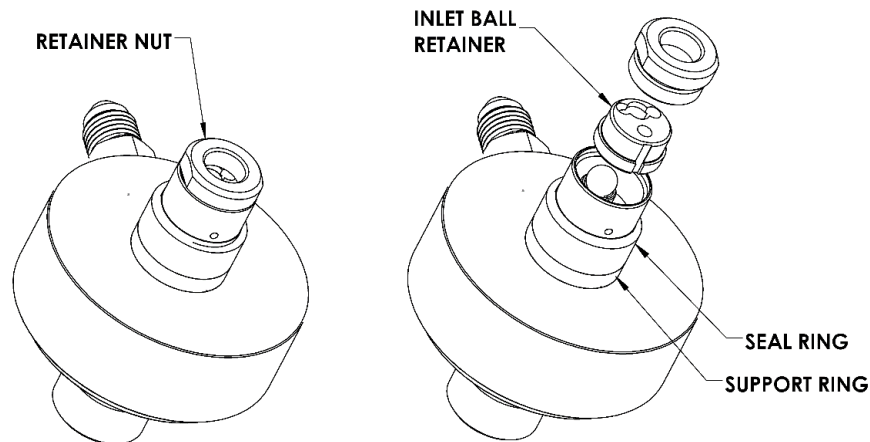

Figure 20 Removing the Retainer Nut from the Check Valve Body
1. **Start from** the inlet (cylinder) side to begin disassembly of a check valve assembly. **Clamp** the check valve body into the soft jaws of a vise, and, **using** the 5/8" crowfoot, **remove** the retainer nut (see **Figure 20** below).